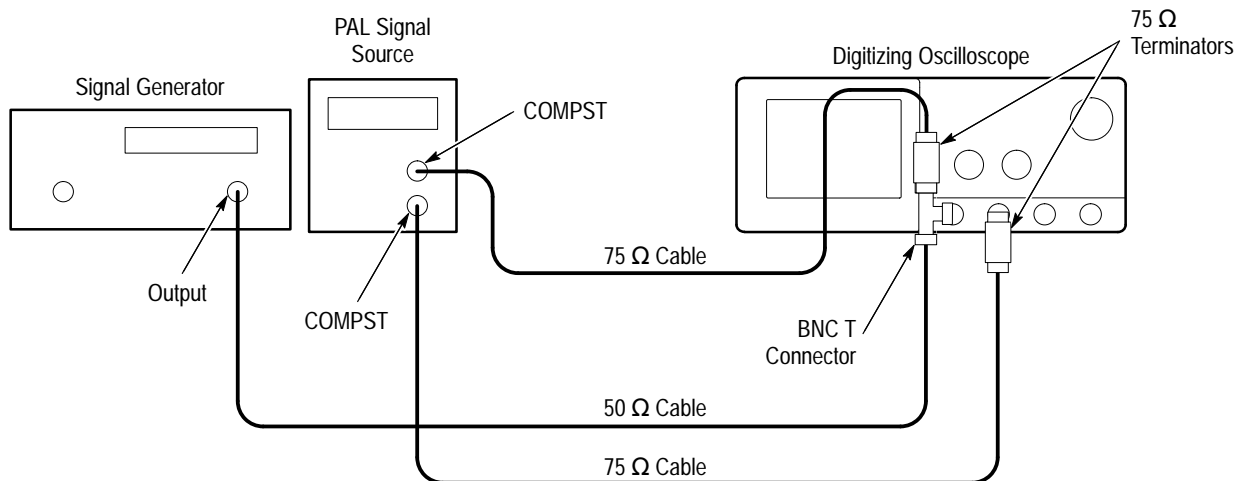

Figure 1–33: Subsequent 60 Hz Rejection Test Hookup
- Connect another composite signal connector of the PAL signal source (labeled **COMPST** on the TSG 121) through a 75 Ω cable and a 75 Ω terminator to the CH2 input. See Figure 1–33.
- CONFIRM that the **TRIG'D** LED stays lighted and that the waveform on screen is stable. In other words, be sure the waveform does not move horizontally or vertically. Also, confirm that the waveform on the screen has one positive pulse and a number of negative pulses. See Figure 1–34.